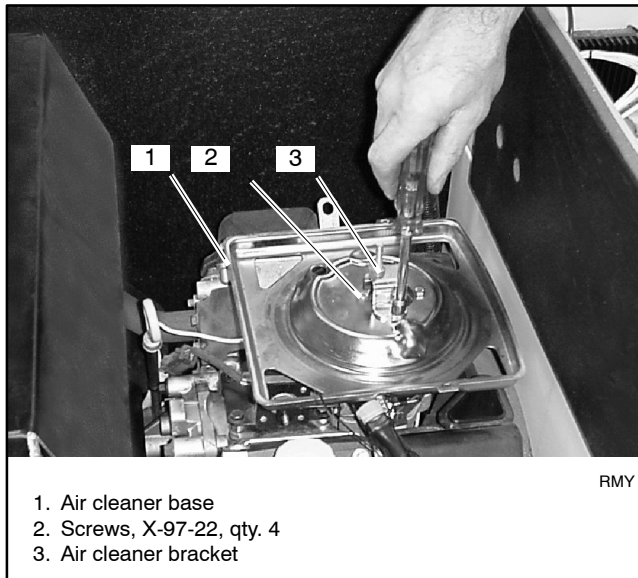

Figure 9 Air Cleaner Bracket and Screws (14RESA shown)
8. Remove the screws that attach the air cleaner bracket and base to the carburetor assembly. Remove the bracket and base. Save the mounting hardware. See Figure 9.